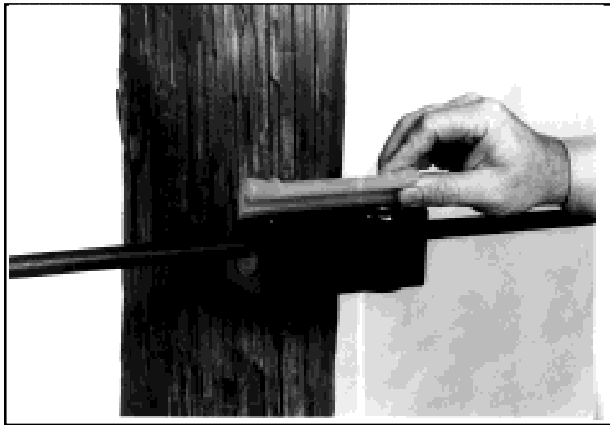

FIGURE 5
4.05 Place the second insert into the body cavity over the cable and install the keeper by aligning the captured bolts with the threaded inserts molded into the body. (Figure 5 and 6)